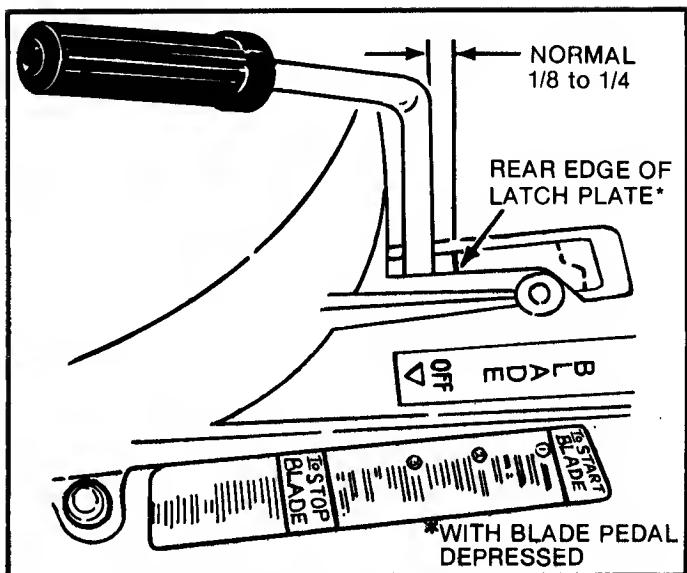
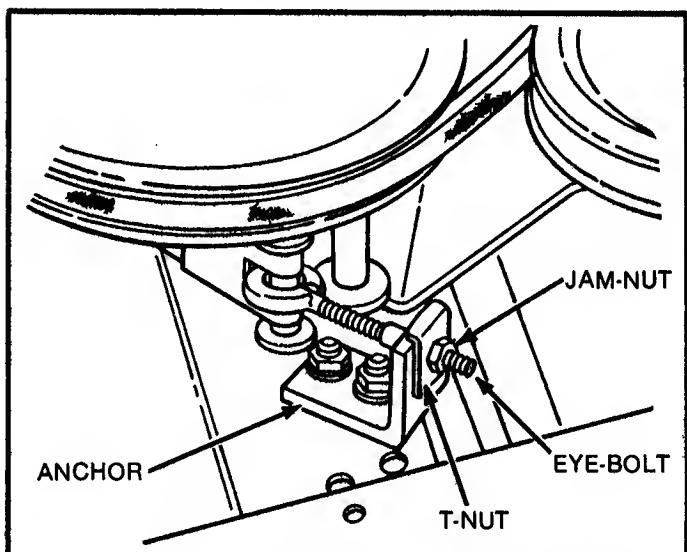

FIG. 8 — BLADE LEVER TRAVEL
FIG. 9 — BLADE BRAKE ADJUSTMENT
The blade brake compensates for wear. As the brake band wears, the blade control lever will gradually stop further rearward in the slot of the cover. Adjustment is required when the lever touches rear of slot (figure 8) or when the blade takes more than 3 seconds to stop. A 7/16" wrench is needed for this procedure. The adjusting point is shown in figure 9. The adjustment is made with the engine stopped as follows.
STEP 2: While holding the blade lever firmly in the rearward position, loosen the jam-nut on the end of the blade stop bolt (figure 9).